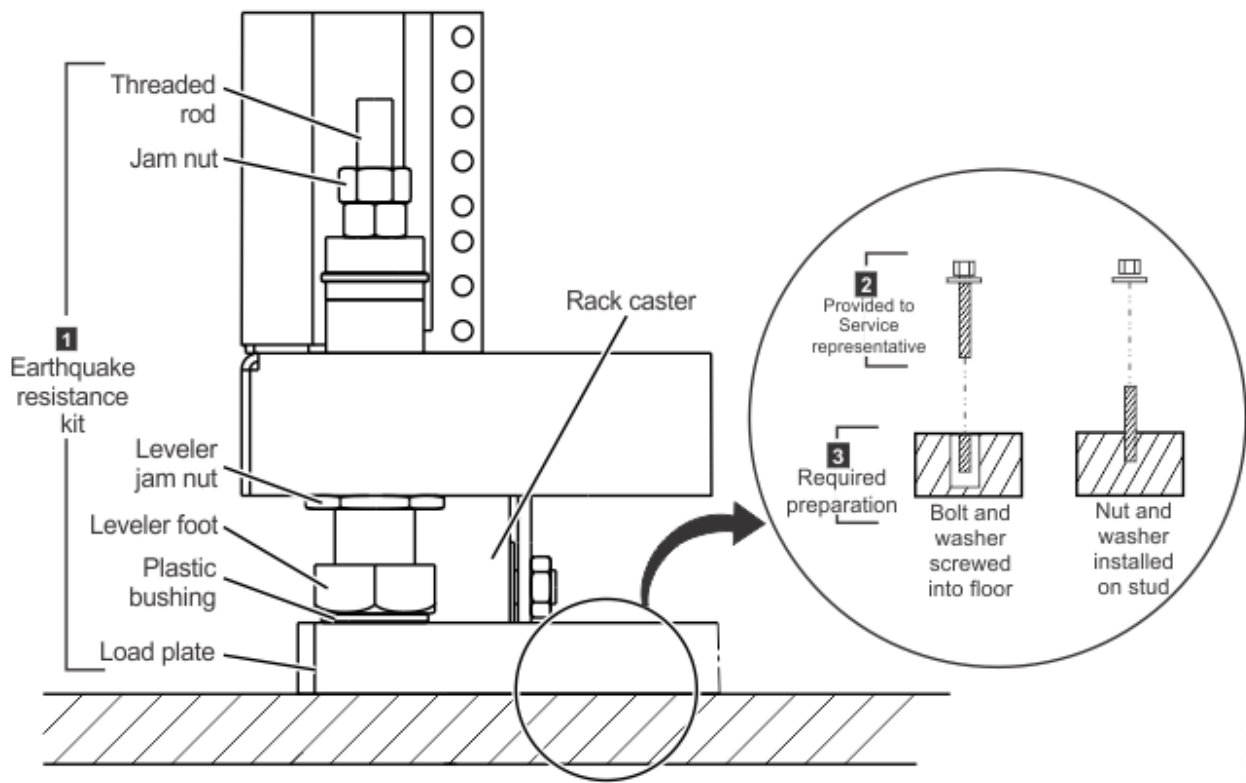

Figure 18. Earthquake resistance kit installed on a nonraised floor.
Figure 18 on page 121 provides an illustration of the earthquake resistance kit (1) after the IBM service representative installs it on the nonraised floor.
Before the IBM service representative installs the kit, you must prepare the area that is shown as 2 in Figure 18 on page 121. This figure shows two of the most common fasteners that you can use.
The following examples provide descriptions of nonraised floor fastener sets. Figure 18 on page 121 illustrates the fastener sets.
3. When the IBM service representative arrives to install the earthquake resistance kit, provide the other fastener parts **(2)** in Figure 18 on page 121 so that the representative can use these parts secure the load plates onto the floor.